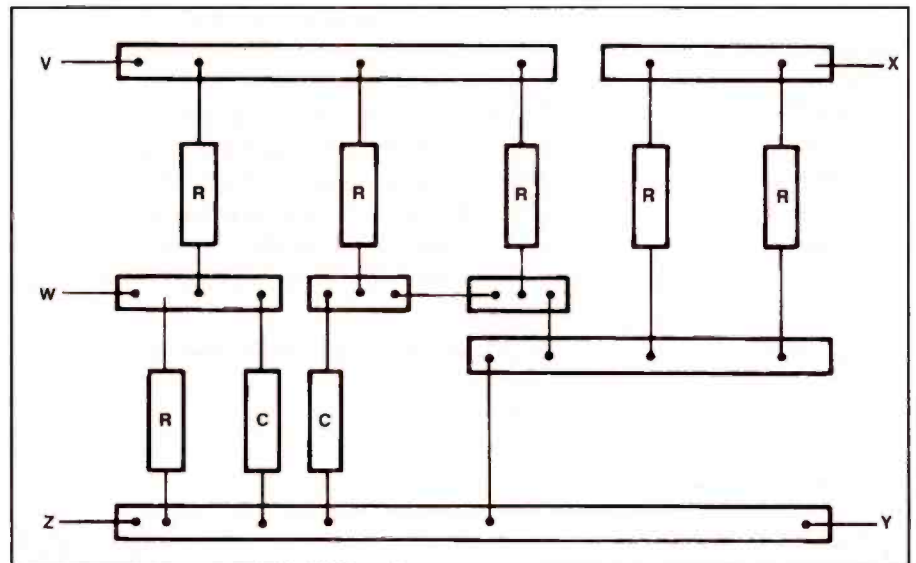

Figure 3.
8. Refer to the circuit in Figure 3. If each resistor is 47K, what is the resistance between points X and Y?